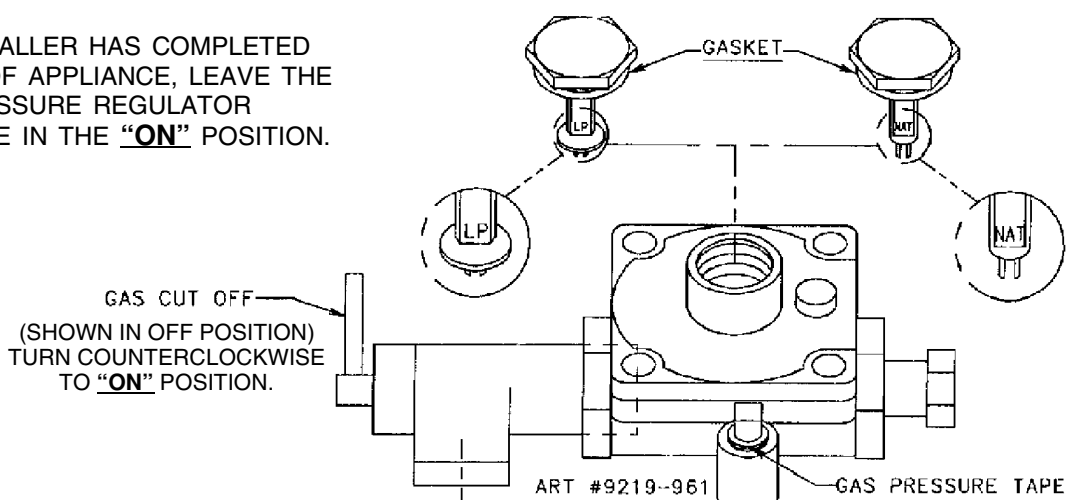

FIGURE 3
3. Invert the pin and snap it back into place within the cap applying even finger pressure at the opposing edges of the pin's circular disc. The pin must be seated firmly and squarely in the cap. (See figure 3.)